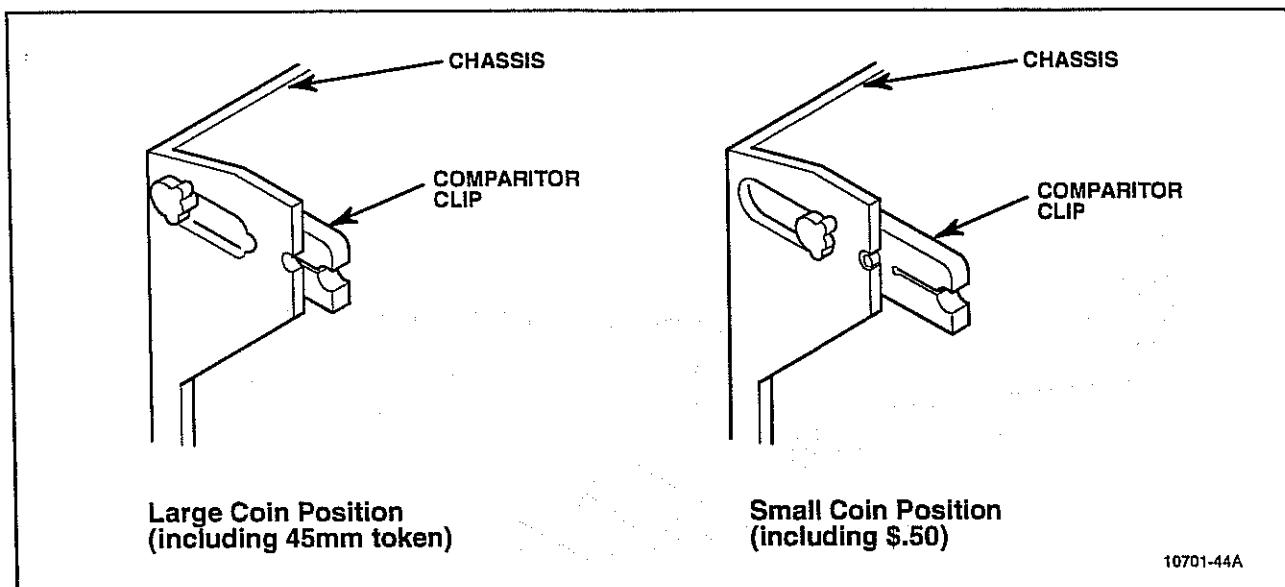

Figure 5-13. Comparitor Clip Positions.
The chassis mounting plate is mounted to the coin guide on the coin denomination. See Figures 5-13 and 5-14 for coin channel position and comparitor clip positions.
5. Adjust the coin comparitor clips located on the sides of the coin chassis. Push the end of the clip slightly inward and rotate the clip 1/4 turn (90 degrees) to unlock. Move each clip forward or backward for position and rotate each clip again 1/4 turn (90 degrees) to lock into place. (See Figure 5-13, Comparitor Clip Positions.)